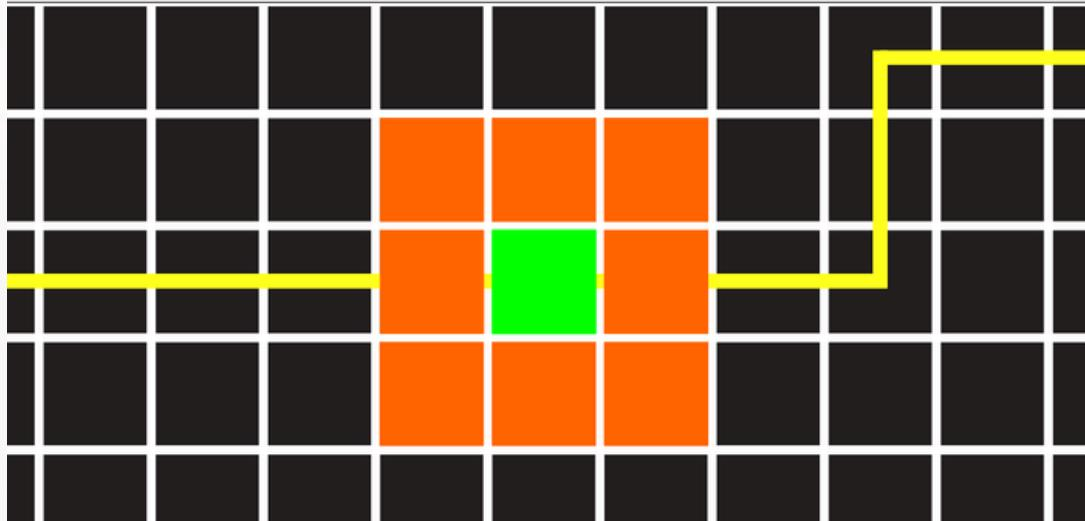

Figure 16 - Danger zone around the hostile agent
- The hostile agent will be **green(#00FF00)** and has a **9-cell detection zone**, indicated by **orange(#FF6400) squares** around its position (Figure 16). Its path will never pass through the Starting square or the Portal square, and these start, end squares will never fall within the detection zone at any time.